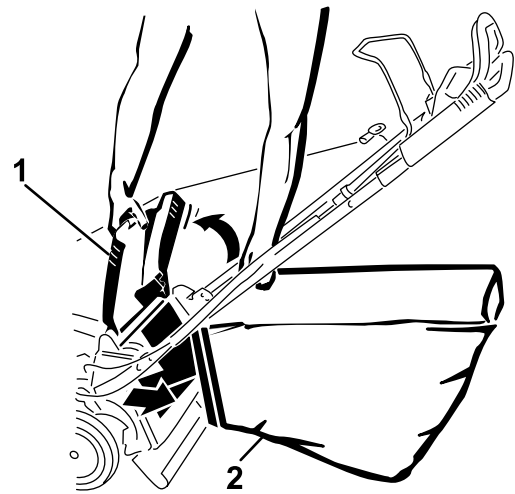

Figure 24
4. Hang the upper front edge of the bag from the grass-bag pins on the notches of the handle brackets (Figure 24).